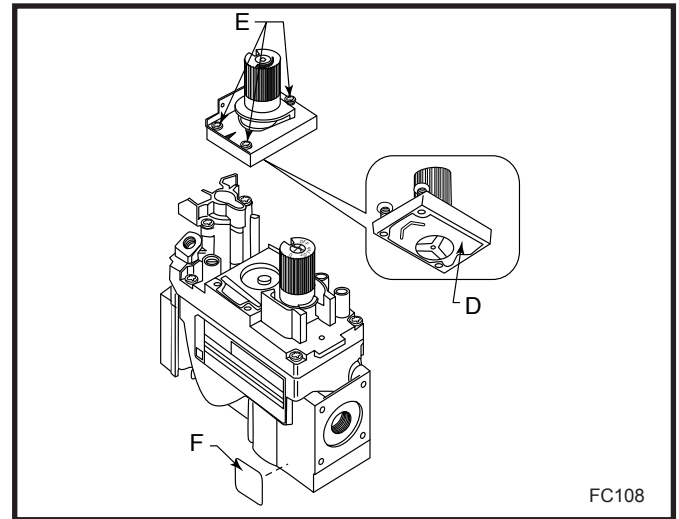

Fig. 74 Replace regulator.
2. Insure the rubber gasket (D) is properly positioned and install the new HI/LO pressure regulator assembly to the valve using the new screws (E) supplied with the kit. Tighten the screws securely. (Ref. torque = 25 in/lb) (Fig. 74)
3. Install the enclosed conversion label (F) to the valve body where it can easily be seen. (Fig. 74)